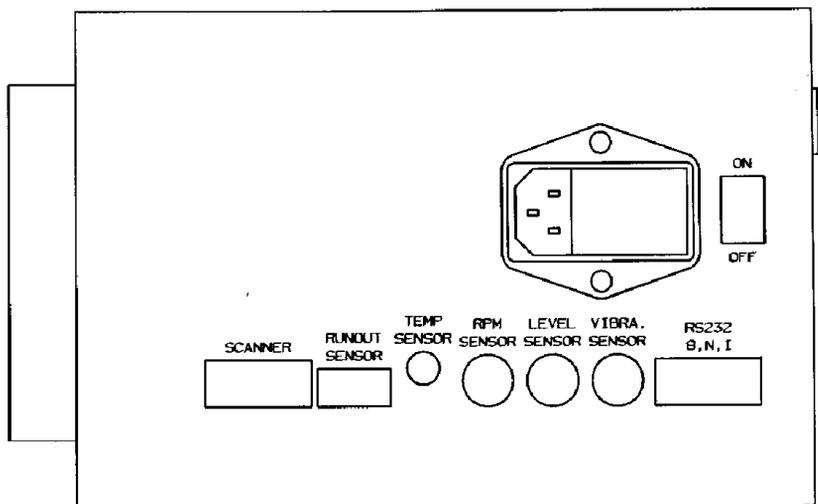

Figure 10 QAII C Station Rear Panel
The main power switch is located on the back panel. See Figure 10, “QAII C Station Rear Panel,” on page 26. With the switch in the ON position, the QAII C Station is on and you can charge the battery and print.
- 2 Connect the cables between the remote sensors and their corresponding jacks on the QAI C rear panel. See Figure 10, “QAI C Station Rear Panel,” above. Each cable has a different kind of connector, making it impossible to plug it into the wrong jack.